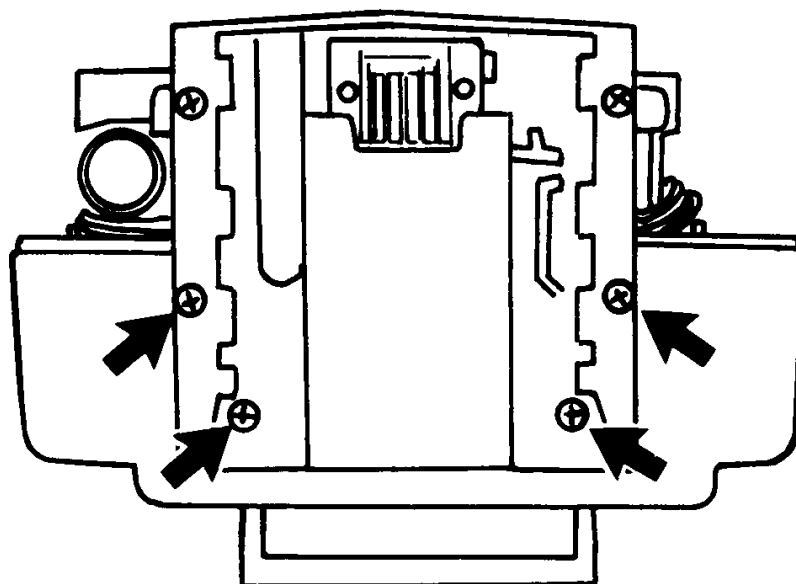

Figure 4-16 Loosening Baseplate Screws
- 1.4 Loosen (do not remove) four screws in Baseplate, (Fig. 4-16)